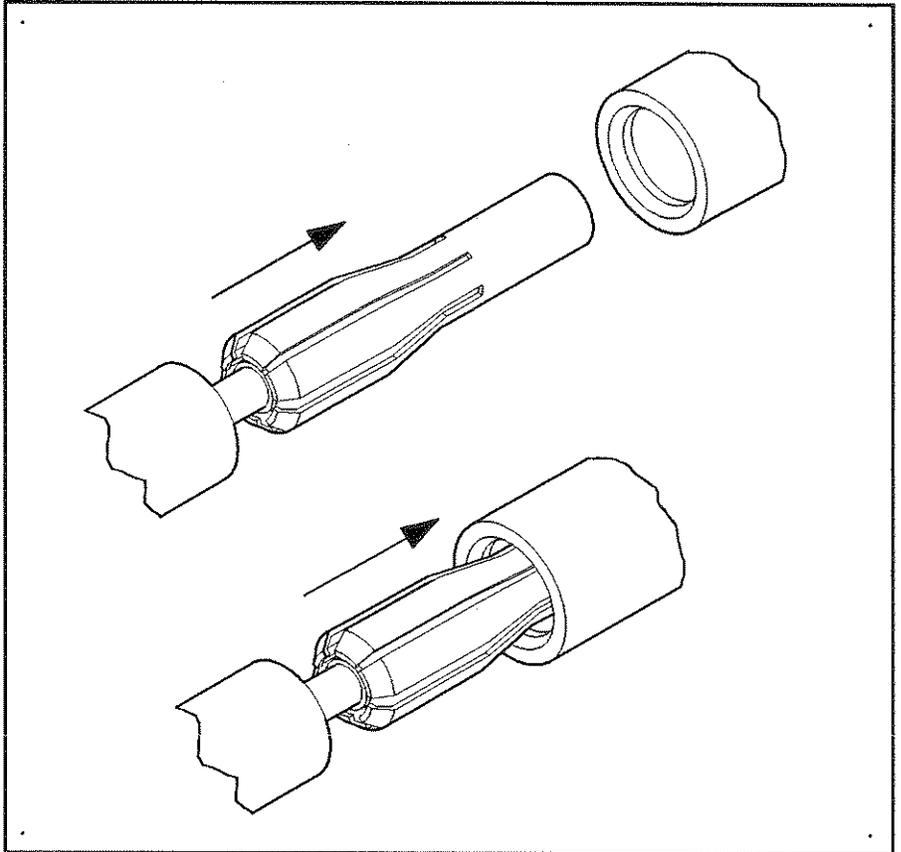

Figure A-17. Installing a New Inner Contact
3. Let go of the contact with tweezers and slowly insert the contact into the center conductor (see Figure A-17). As you install the contact, its fingers compress and the force required to insert it first increases and then decreases. When the insertion force begins to decrease, do not push too hard or you may damage the new inner contact or center conductor.